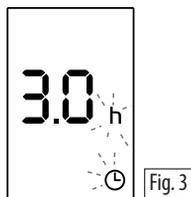

Fig. 3
Delayed start: With the appliance in standby mode, press the timer button (G) . The hours left before the appliance comes on is displayed together with the  symbol and "h" symbol flashing (see fig. 3). Change the hours using the + and - buttons, then wait a few seconds for the program to be stored.